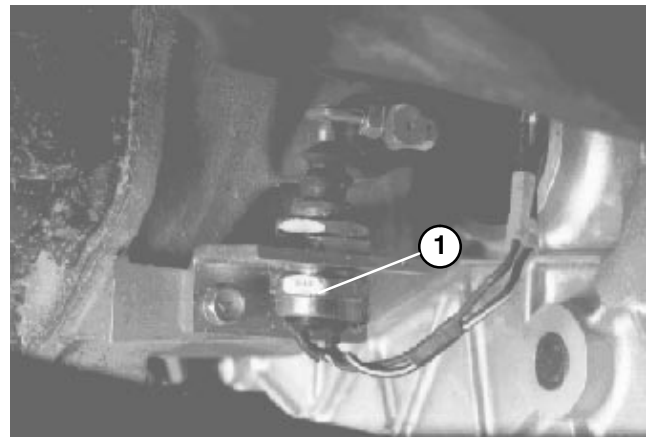

Figure 40
7. Recheck clutch safety switch adjustment (Fig. 40). Engine must not crank unless clutch pedal is 1.25" \pm .12" from floor. If an adjustment is required, loosen switch jam nuts and adjust up or down.